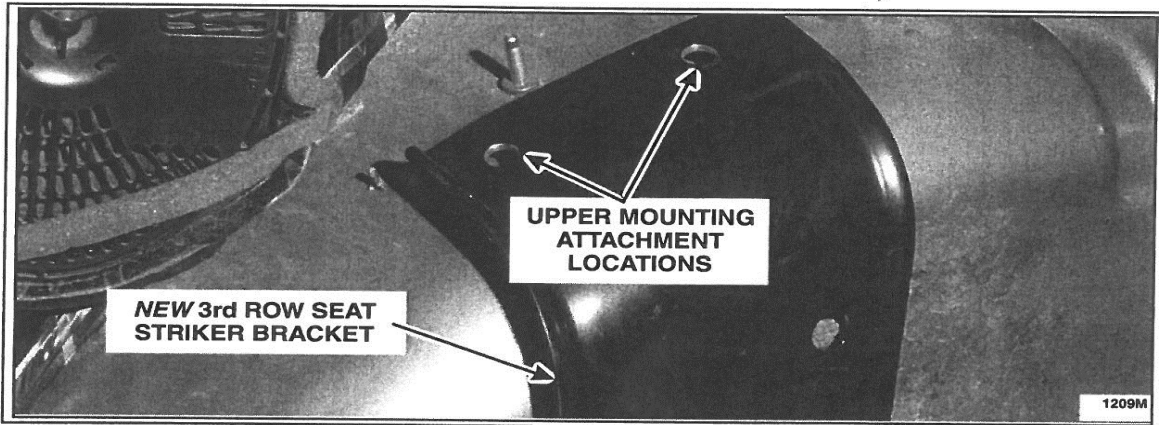

FIGURE 20
38. Hold the *new* RH and LH 3rd row seat striker brackets tight against the wheel wells. Center-punch and drill four (two per side) 9.525 mm (3/8 in) holes in the center of each of the 3rd row seat striker bracket upper mounting attachment locations. See Figure 20.